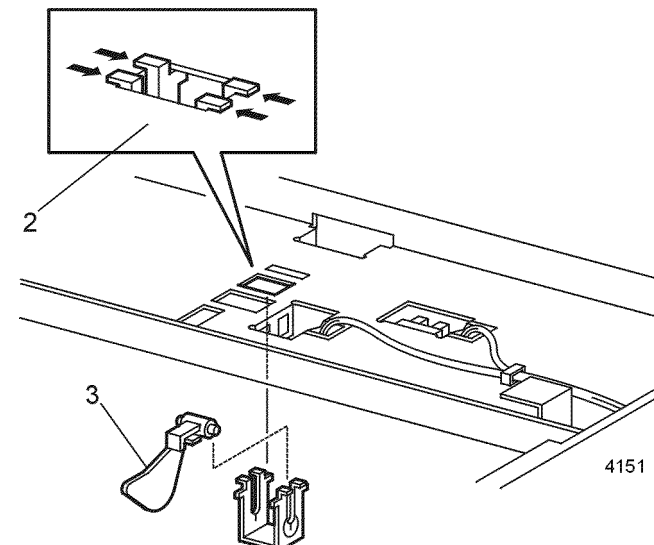

Figure 1 No Paper Sensor Actuator
2. Release the four locking tabs that secure the actuator and support (Figure 1).
3. Remove the actuator from the Actuator Support (Figure 1).